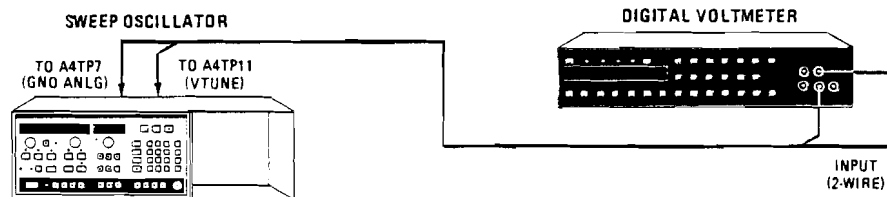

Figure 5-10. Manual Sweep Adjustment Setup.
3. Position the sweep oscillator upright as shown in Figure 5-10 and remove the top cover.